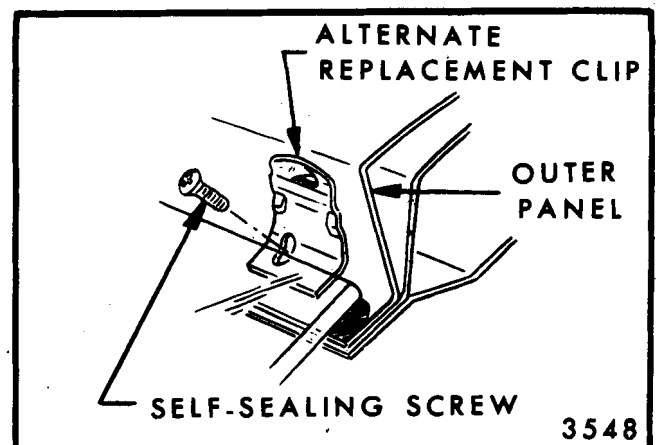

Fig. 16-7-Reveal Molding Clip Alternate Replacement
2. Insert a self-sealing screw through alternate replacement clip and into panel (Fig. 16-7).